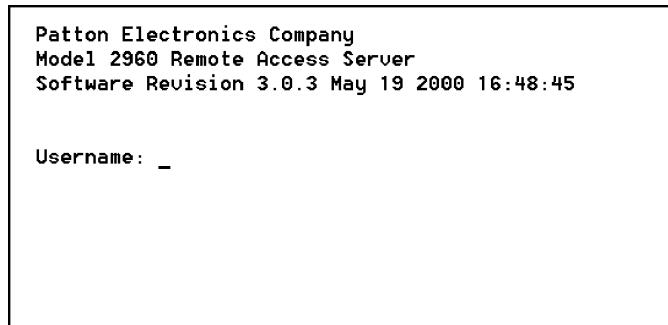

Figure 20. Login window
- 4. Press <RETURN> to display the login window, which will resemble that shown in figure 20.